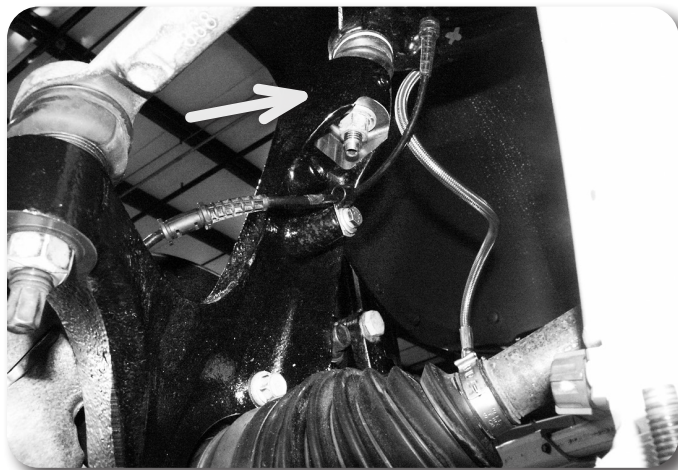

Figure 4
8. Loosen but do not fully remove upper ball joint nut. Strike knuckle near the upper ball joint to dislodge the tapered seat **Figure 4**. Take care to not strike the ball joint.